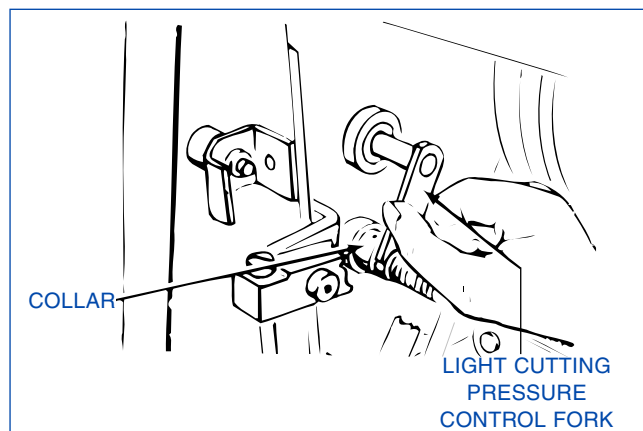

FIGURE 4-5, Light Pressure Control Fork
1. Hold Light Pressure Control Fork back so it does not touch Collar during entire heavy pressure check (see Figure 4-5).
12. Turn Threaded Sleeve (B) clockwise (as viewed from rear of machine) until light pressure control fork will not return to contact collar when it is pulled away (refer to Figure 4-5).
10. Check light pressure control fork to make sure it is seated on shoulder of collar (refer to Figure 4-5).